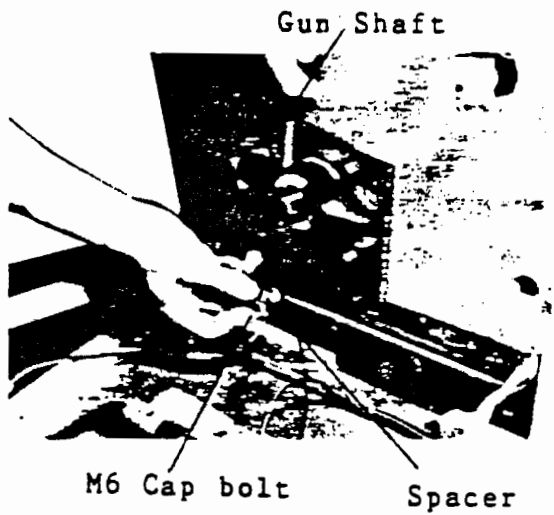

fig. 7-10
- ③ Remove the gun shaft (M9 cap bolt : 1) and pull out the gun assy to replace. [Ref. Fig. 7-10, 7-11]